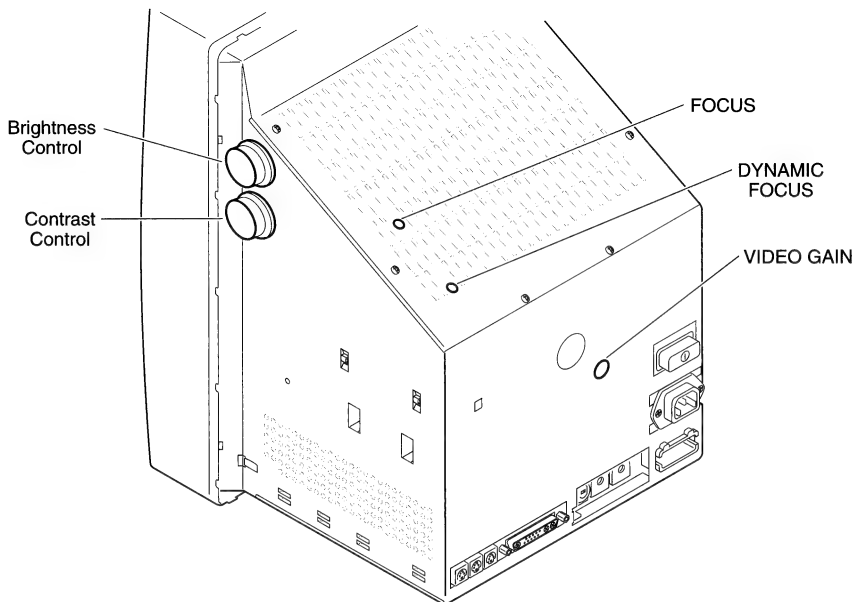

Figure 6 FOCUS and VIDEO GAIN Controls
5. FIGURE 6. Turn the brightness control to detent (midrange) and turn the contrast control to maximum (full clockwise).
6. FIGURE 6. Adjust the FOCUS control for best overall focus.
7. FIGURE 6. Turn the DYNAMIC FOCUS control for the best focus on the left and right sides of the screen.
9. FIGURE 6. Using the light meter, measure the screen luminance. Adjust the VIDEO GAIN control until the screen luminance measures at "11" on the light meter.